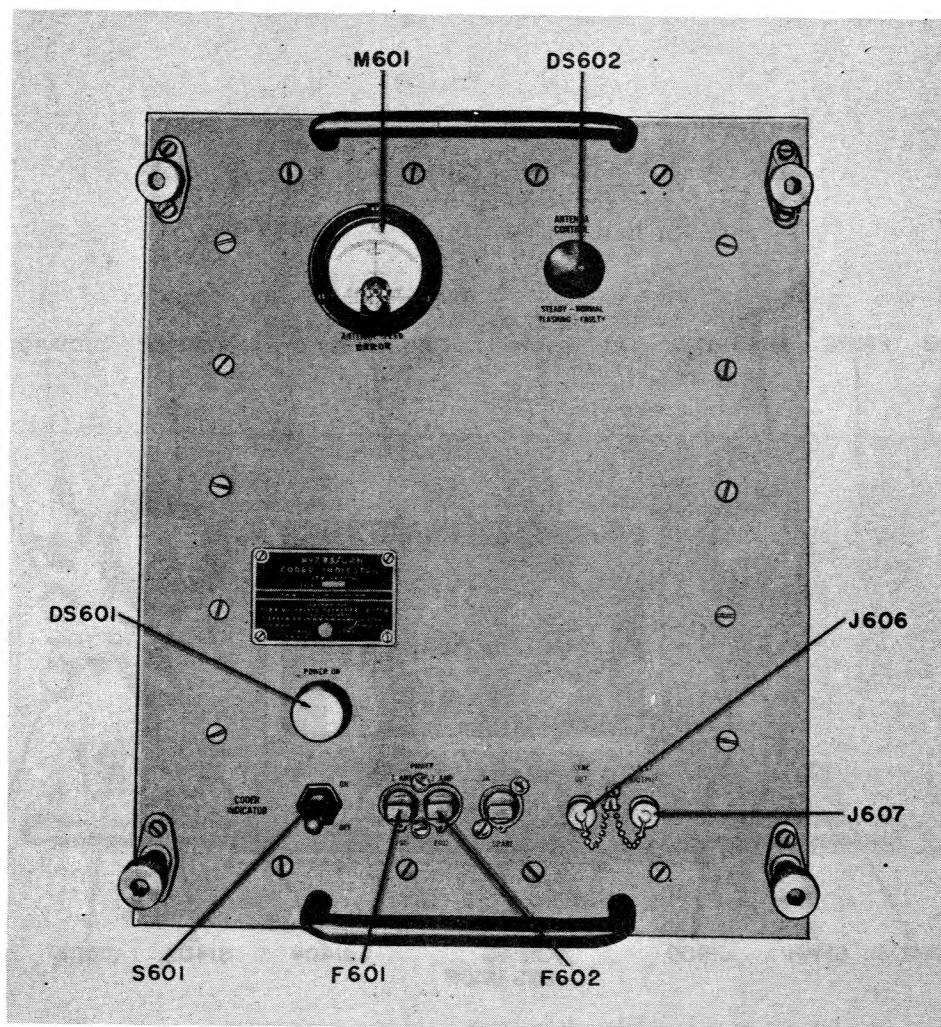

Figure 3-2. Coder-Indicator KY-382/GRN-9D, Front Panel View
(3) **CODER-INDICATOR KY-382/GRN-9D.** —Coder-Indicator KY-382/GRN-9D (figure 3-2) receives distance information and noise pulses from the radio receiver. It also receives 15-cps trigger pulses and 135-cps trigger pulses from the reference pulse-generator in the antenna. The 15-cps trigger, the 135-cps trigger, and the pulses from the radio receiver are coded and mixed in proper sequence by the coder-indicator into pulses that are applied to the frequency multiplier-oscillator of the transmitter. To prevent the transponder from responding to its own transmitted output, the coder-indicator blanks the radio receiver while a pulse pair is being transmitted. The coder-indicator also generates an identification call signal which is applied to the frequency multiplier-oscillator.
(b) Coder-Indicator KY-382/GRN-9D (figure 3-2).
CODER-INDICATOR KY-382 GRN-9D (figure 3-2)